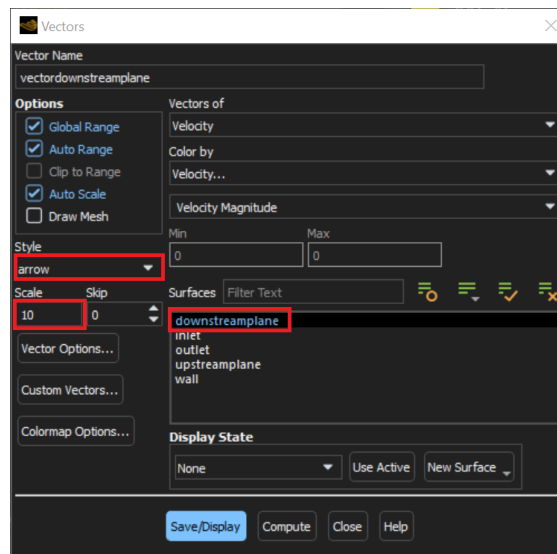

Figure 65: Selection of Fluent vector features.
3. Secondary motions can also be visualized by displaying velocity vectors. To do this, select again *Graphics* in the *Results* group, and then *Vectors* \rightarrow *New...* In the *Vectors* window that will open up, as shown in figure 65: